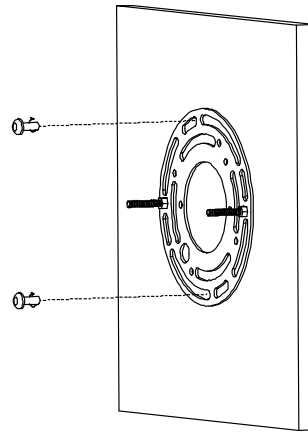

Fig 2
2. Align the Mounting Plate to the hole of the junction box and tighten it with screws. (Fig 2)